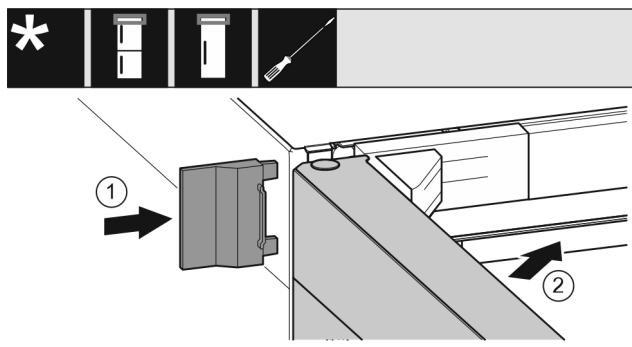

Fig. 24
- ▶ Push the outer cover Fig. 24 (1) on.
- ▶ Close the upper door Fig. 24 (2).